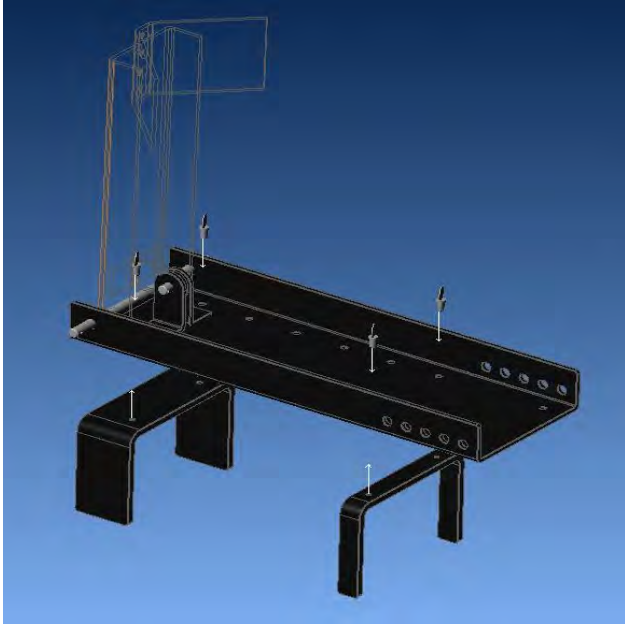

Figure 1
1. Attach mounting brackets (B) to main unit (A) using the (4) 5/16" – 18 x 1/2" thumbscrews (E) as shown in Figure 1.